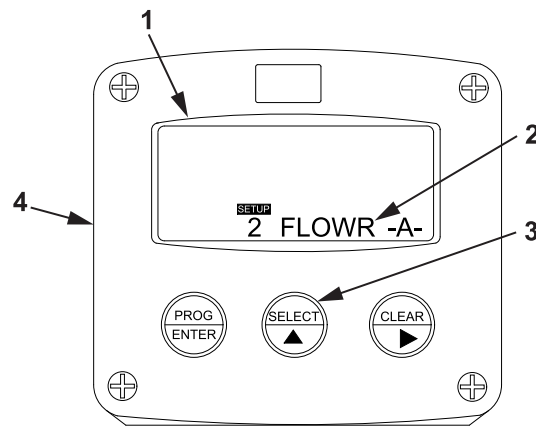

Figure 9. FLOWR A Display.
- 5. Verify that FLOWR A (Figure 9, Item 2) appears on the display screen (Figure 9, Item 1).
- 6. Verify default settings for function group FLOWR A (Figure 9, Item 2).
- a. Press the SELECT key (Figure 9, Item 3) on the tank volume meter monitor (Figure 9, Item 4).